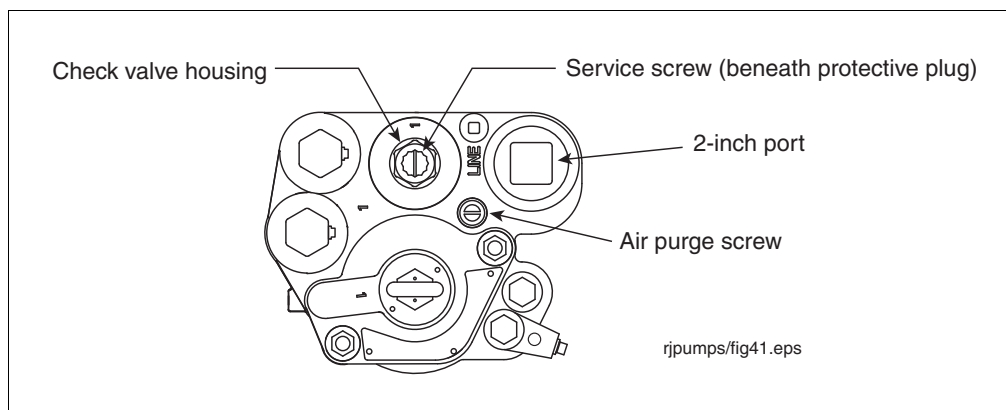

Figure 52. Locating Air Purge Screw
25. Turn the air purge screw 2 - 3 turns counterclockwise (see Figure 52).
2. Remove and save the protective plug in the top of the check valve housing and turn the service screw clockwise (see Figure 52). As the screw approaches its bottom position, you will hear the system depressurizing. Continue turning the screw until it can go no further. When the screw is all the way down, backoff the screw 4 turns to lift the check valve and let the fuel drain out of the manifold's hydraulic cavities.
5. Locate the air purge screw on the top of the manifold (Figure 52).